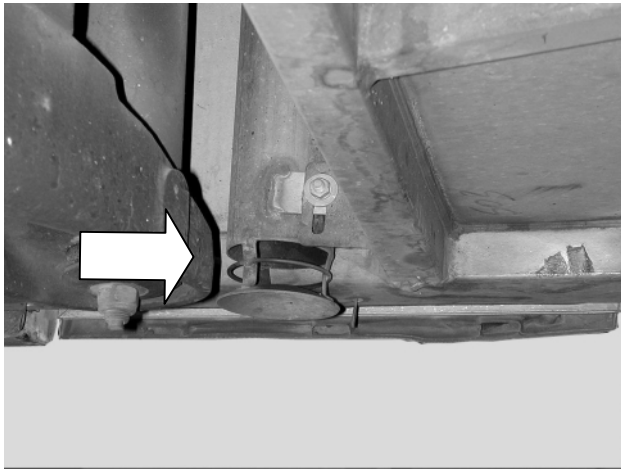

Figure 1: Old style Proheat exhaust for C-coaches
1. In an effort to eliminate burner exhaust back pressure, Van Hool have replaced in production the old deflector type exhaust pipe by a bent open exit type (see Figures 1, 2 and 3).
3. Inspect and clean any carbon build-up on the flame shield, flame sensor, electrode, combustion chamber and combustion tube. (see Figure 1)